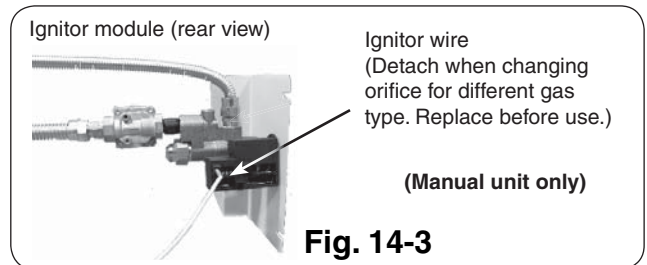

**Fig. 14-1**
- a) Unscrew and remove the cap (see Fig. 14-1) from the regulator, extracting the converter.
- b) Remove the converter (the red plastic stalk, Fig. 14-1) by carefully pulling it away from the center of the cap (it will snap out of its seating).
**Note:** **EACH END OF THE PLASTIC CONVERTER IS EMBOSSED WITH EITHER THE LETTERS "NAT" OR "L.P." FOR THE RESPECTIVE GAS TYPE ("NAT." for natural - "L.P." for propane). WHEN THE CONVERTER IS IN THE CAP AND THE CAP IS HELD UPPERMOST, THE LETTERS SEEN (AT THE BOTTOM OF THE STALK) INDICATE THE GAS THAT THE REGULATOR IS SET UP FOR.** (Fig. 14-1 shows the converter set for propane gas.)